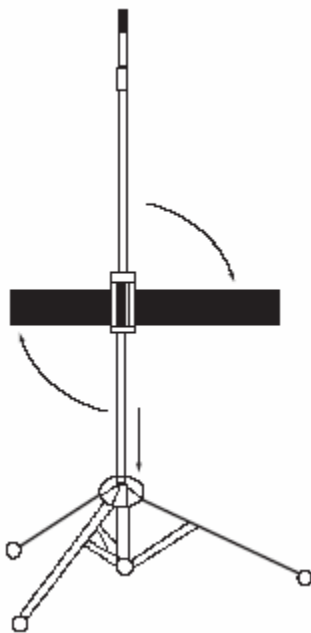

Fig. 1
Follow the steps illustrated on (Fig. 1)
3. Turn the screen in a vertical position as reversed to that shown in Fig. 1.